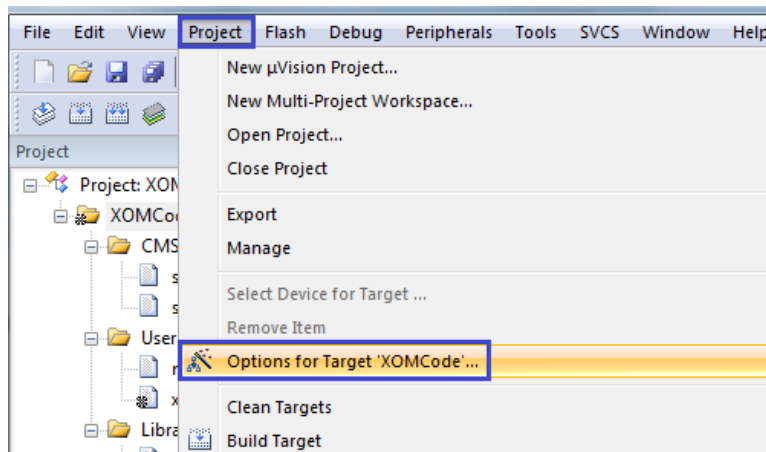

Figure 3-1 Open Keil® MDK Options
1. Open Keil® MDK and select “Project->Options for Target” to enter “Options” page, as shown in Figure 3-1.